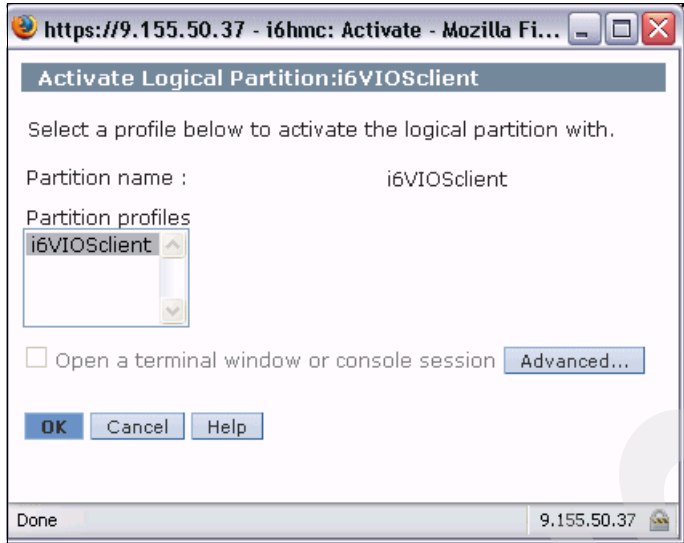

Figure 6-64 HMC Activate Logical Partition dialog
3. We select **OK** on the partition activation dialog, as shown in Figure 6-64.